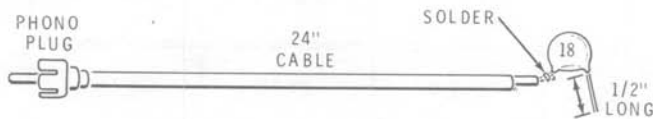

Figure 1-10
- () Refer to Figure 1-10 and solder one lead of the 18 pF disc capacitor to the center conductor of the shielded cable as shown.